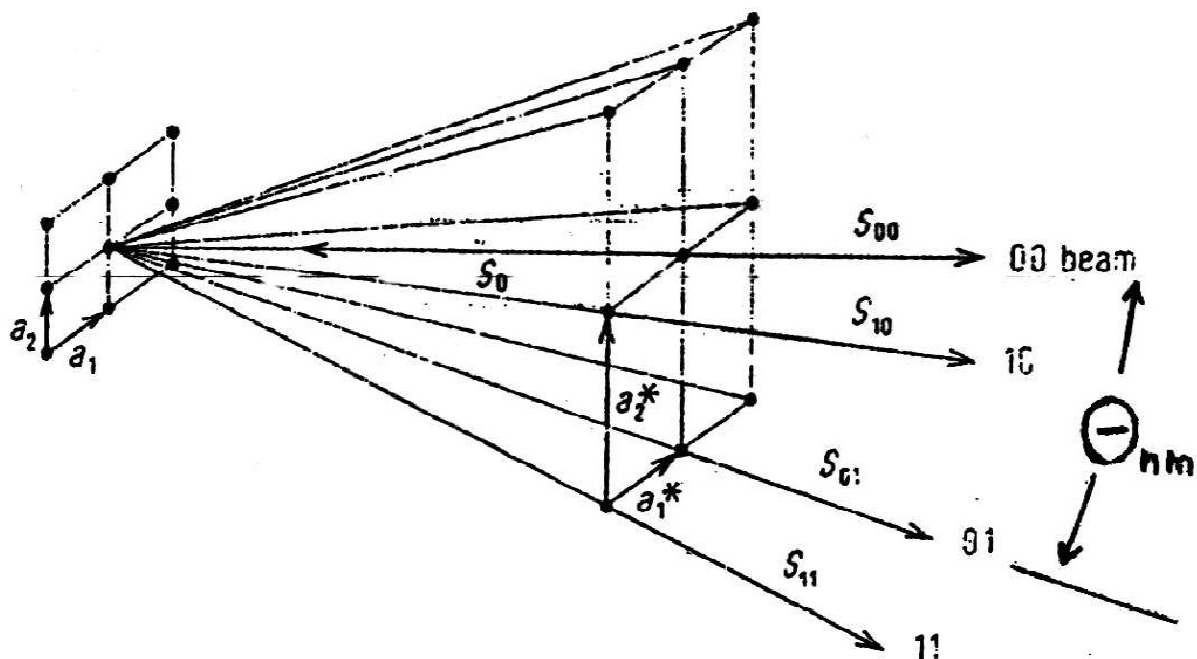

Fig.4: Draft for problem 5.3 and 5.4
5.3 Imagine a plane wave λ which hits a two dimensional quadratic lattice (lattice vectors \vec{a}_1, \vec{a}_2 with $|\vec{a}_1| = |\vec{a}_2| = a$, Fig. 4). The wave is scattered at the lattice. Validate the condition
5.4 Application of LEED: S_0 is the direction of the incident electron beam (Fig. 4). The wavelength is $\lambda(\text{\AA}) = \frac{12.26}{\sqrt{V(\text{eV})}}$, where V is the energy of the electrons. Calculate the minimum energy V_0 for a lattice $a = 2.55\text{\AA}$ (Cu-Cu-distance) such that